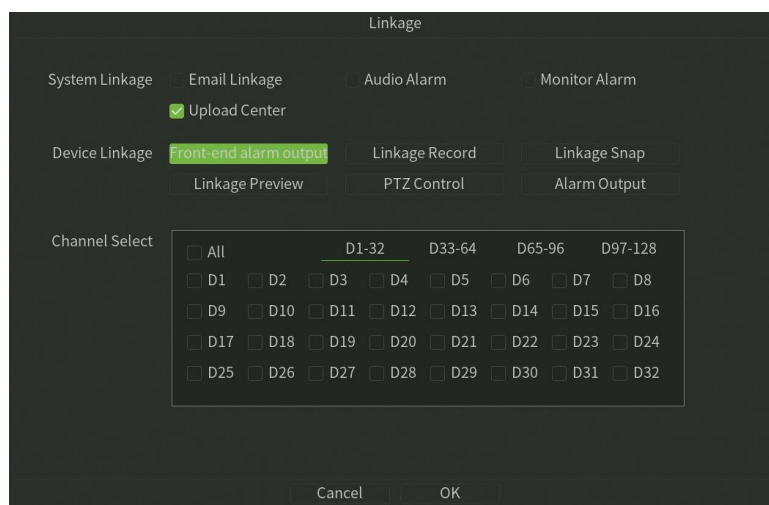

Figure 7.16 Linkage
11. **Linkage:** Click Linkage button, Setup the linkage operation of the function, as shown in figure 7.16.